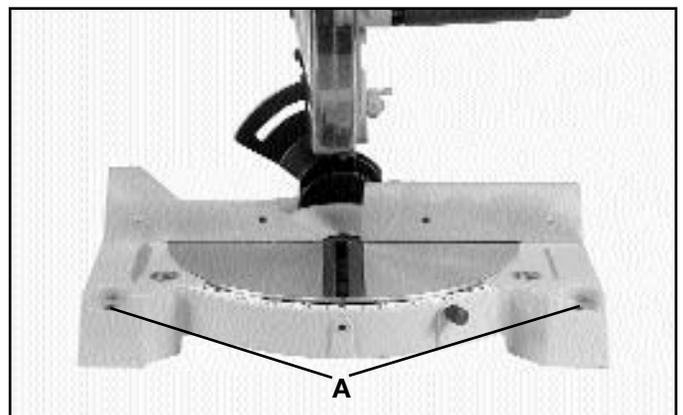

Fig. 10
**CAUTION:** Before operating your compound miter saw, make sure it is firmly mounted to a sturdy work bench or other supporting surface. Four holes are provided, two of which are shown at (A) Fig. 10, for fastening the saw to a supporting surface.